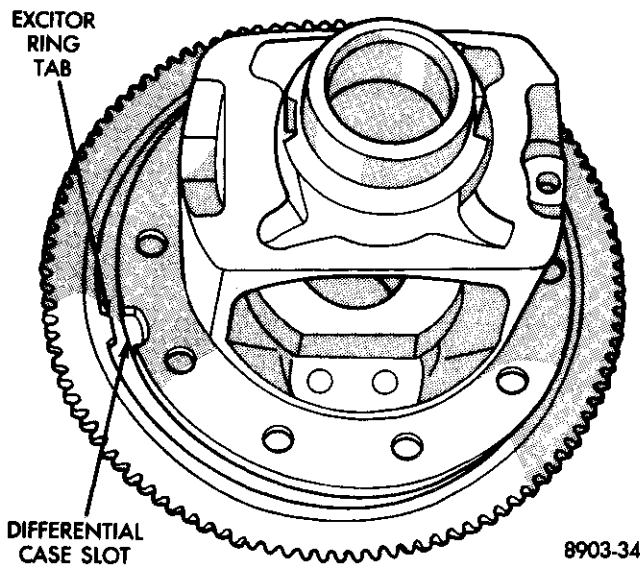

Fig. 20 Exciter Ring Alignment
(1) Align the exciter ring tab with the slot in differential case (Fig. 20).